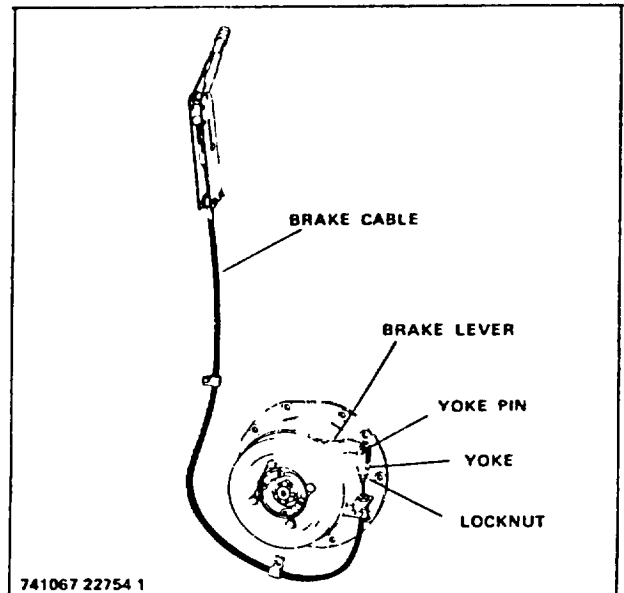

Figure 3-2. Adjustment at Brake Shoes
3. Remove yoke pin from yoke and loosen yoke locknut (Fig 3-2).
- c. Remove the yoke pin that secures the brake cable yoke to the parking brake lever (Fig 3-2); remove the yoke from the lever.